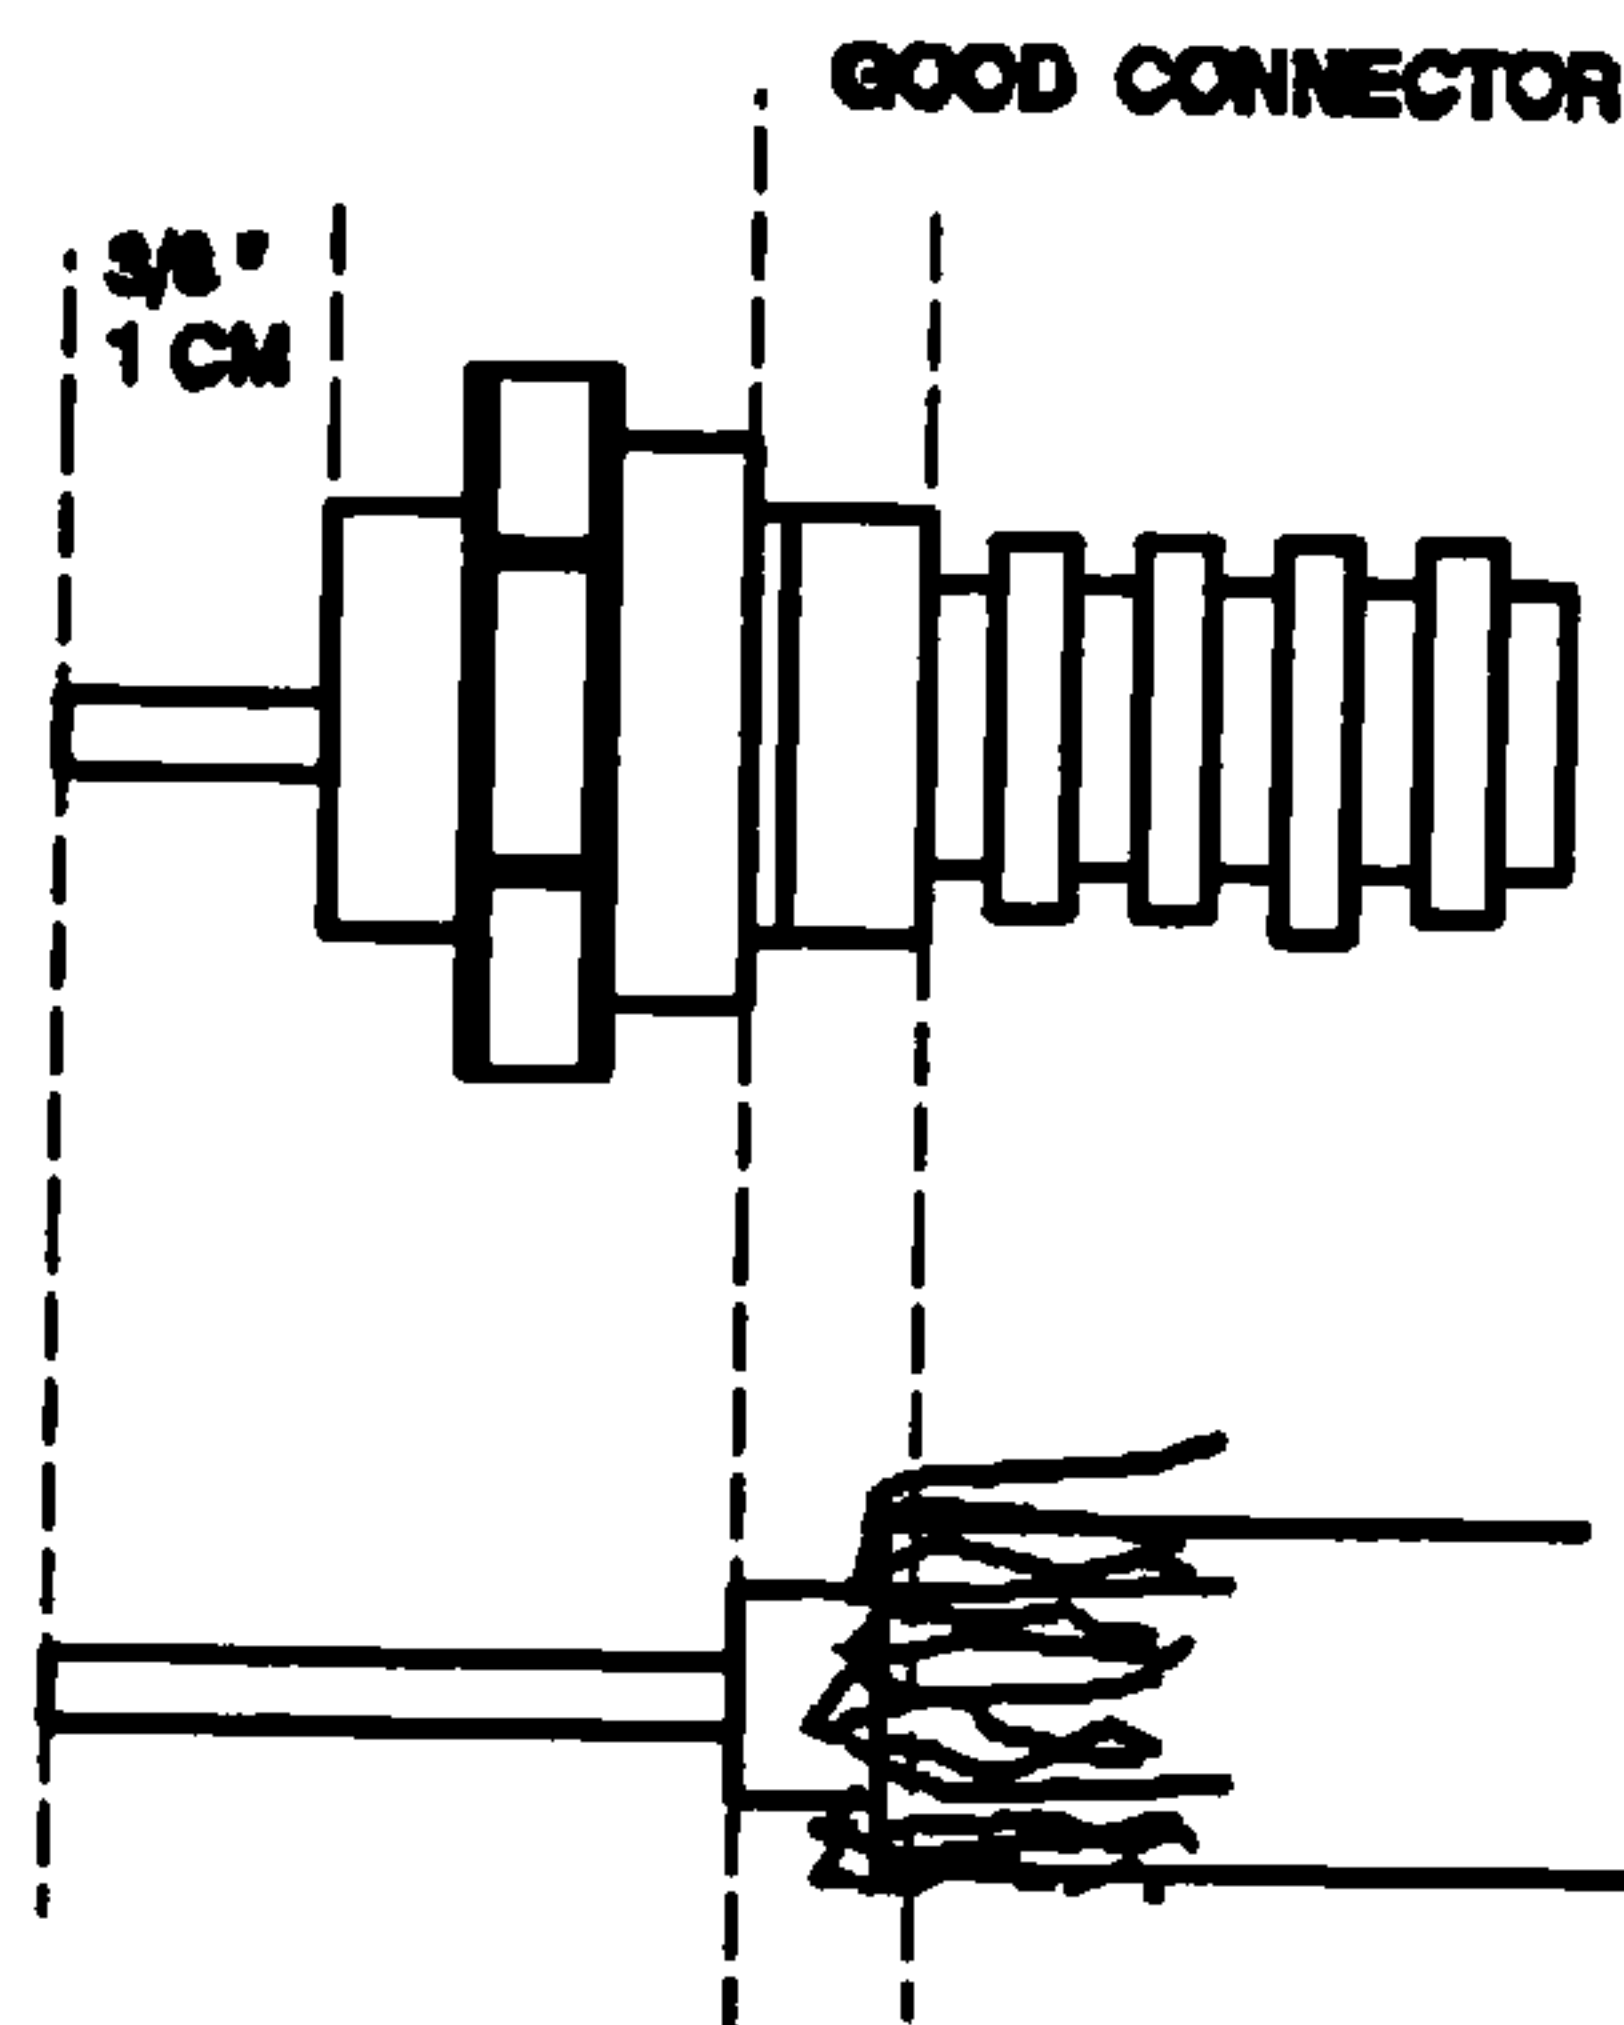

Figure 3. Antenna Connector Assembly
5. Install the F-type connector. Refer to Figure 3 for connector installation instructions.
6. Install the F-type connector. Refer to Figure 3 for connector installation instructions.